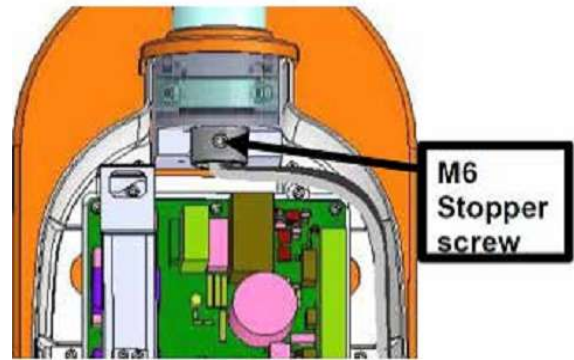

Figure 32
- Fix the M6 stopper screw to the straight arm shaft using 5mm Allen key as shown in Figure 32.